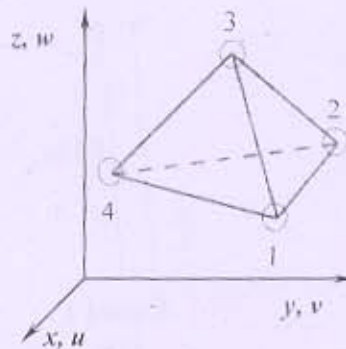

Figure 3 (Axes/Coordinates Indicative, Data Given in Question Statement)
- Q - 5 For a three-dimensional (3-D) tetrahedron element shown in Figure 3, the coordinates [14]
- Q - 6 For a three-dimensional (3-D) tetrahedron element shown in Figure 3, determine the stresses in the element. Remaining data is to be considered exactly the same from the concerned question. [14]